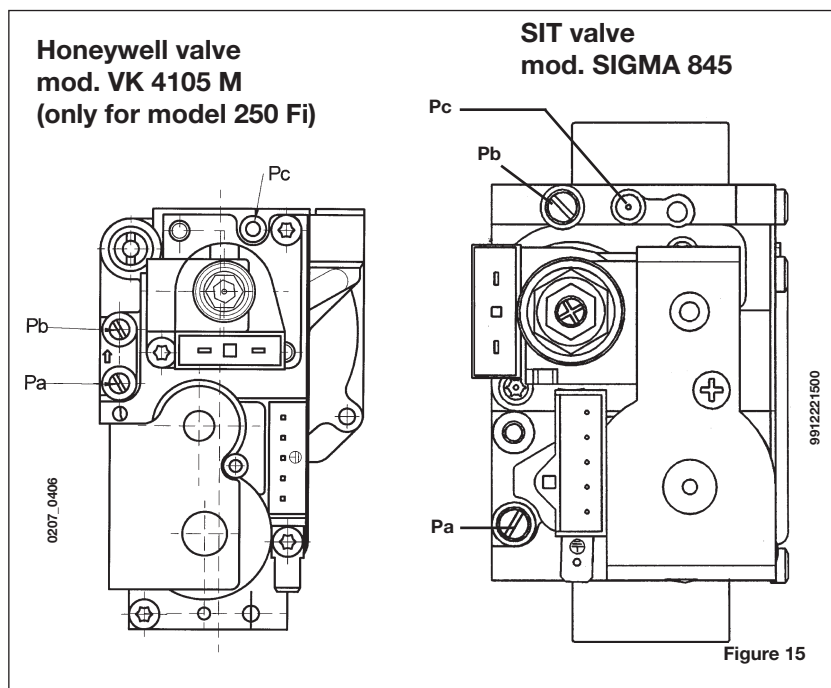

Figure 15
The procedure for calibrating the pressure regulator varies slightly according to the type of gas valve fitted (HONEYWELL or SIT, see figure 15).
- connect the positive pressure test point of a differential pressure gauge (possibly water-operated) to the gas valve pressure test point (**Pb**) (Figure 15).
- make sure that the dynamic inlet pressure of the boiler, measured at the gas valve pressure test point (**Pa**) (Figure 15) is correct (**37 mbar** for **propane** or **20 mbar** for **natural gas**).